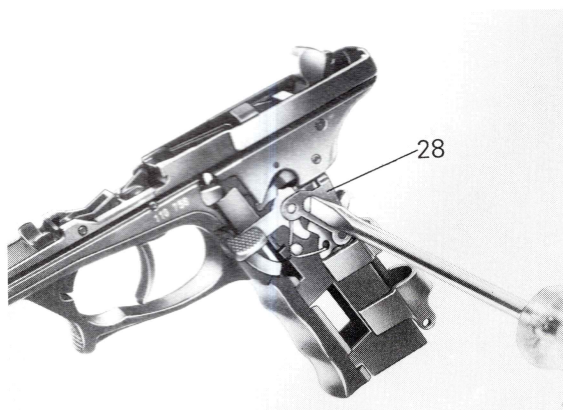

Fig. 19
- Undo the countersunk screws (29) (Fig. 19) and then take off the left-hand bearing plate (28) followed by the right-hand bearing plate (31).